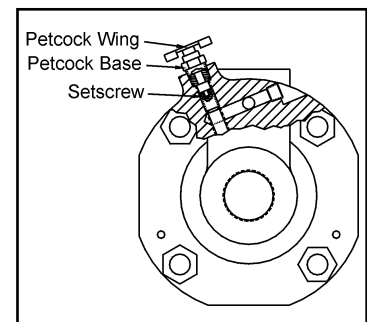

Figure 5
- Unscrew and remove the petcock wing from the petcock base on the shuttle valve at the top of the dryer (see Figure 5).